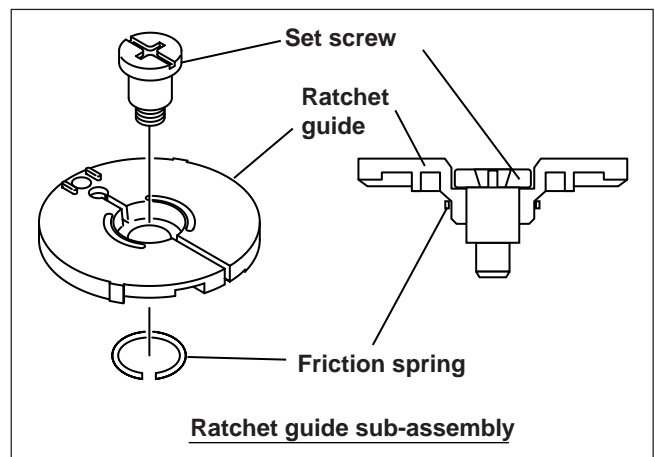

Fig. 12-6
-2 Mount the ratchet guide assembly, taking care not to move the ratchet. (Fig.12-6)